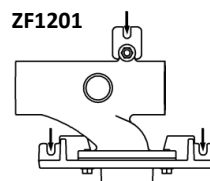

Figure 7a
- For ZF1201, see **Figure 7a**.